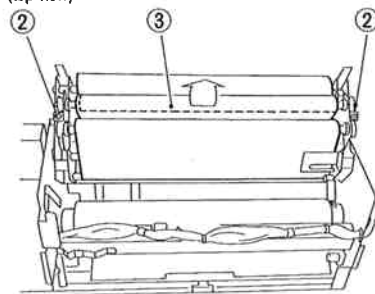

Figure 4-821
- 4) Remove the two mounting screws ②, and close the cleaning belt unit; make sure that the cleaning belt feed roller (right) ③ will open into the direction of the arrow shown in Figure 4-821.